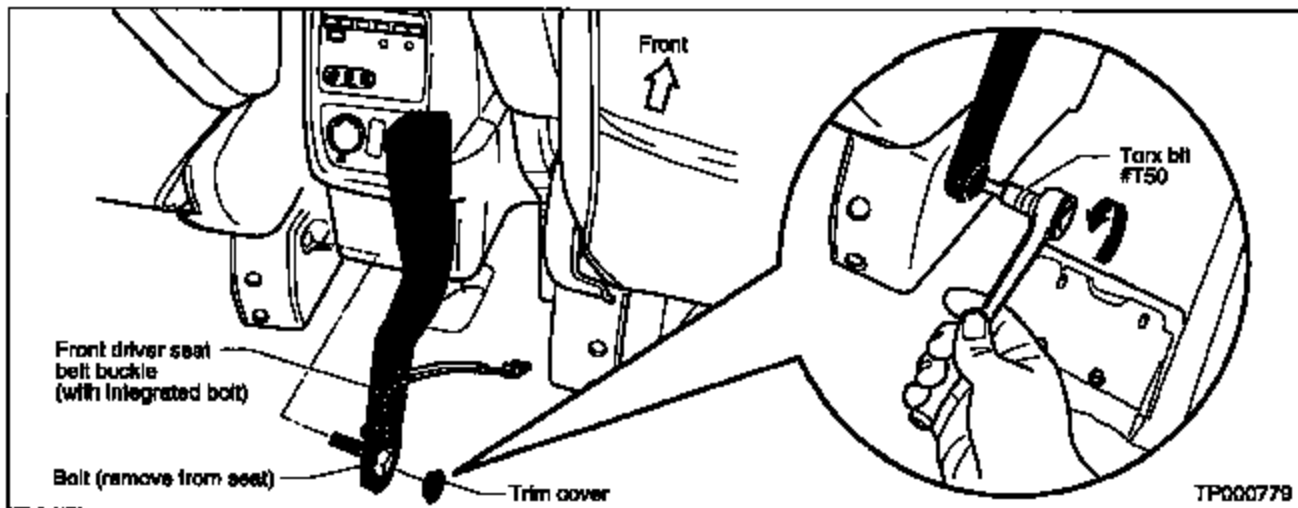

Figure 19
2. Unscrew (using a Torx-bit #T50) and remove the trim cover over the seat belt buckle mounting bolt (see Figure 19).
3. Unscrew the bolt and remove the front driver's seat belt buckle (see Figure 19).
6. Re-install the trim cover over the seat belt buckle mounting bolt (see Figure 19).